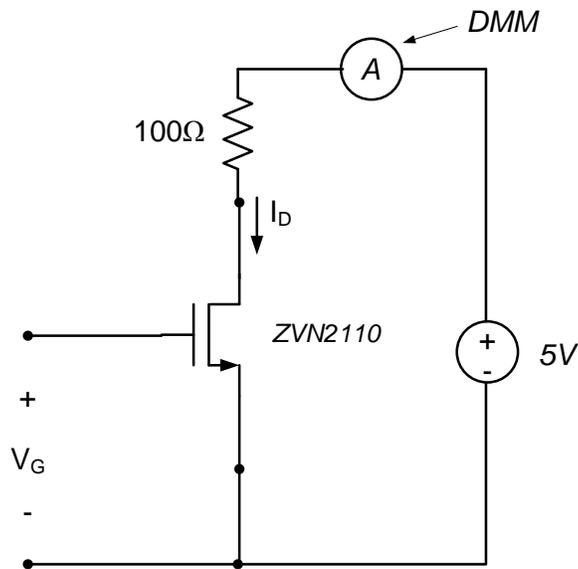

Figure 2. VCCS circuit schematic.
1. Connect the circuit shown in Figure 2. Two power supplies are used in the circuit. Use channel 1 of your Arbitrary Waveform Generator (W1) to apply the (variable) gate voltage, V_G . Use of the waveform generator to apply constant voltages is presented in Appendix A of this assignment. Use the positive power supply (VP+) to provide a constant 5V to the MOSFET drain; this power supply provides the drain current i_D .
The 100Ω resistor in Figure 2 is used to limit the amount of current flowing through the MOSFET. If no resistor is used between the power supply and the MOSFET, an excessive amount of current can flow through the MOSFET resulting in damage to the MOSFET and/or the rest of the circuit. The 100Ω resistors in your analog parts kit can be identified by the color bands on the side of the resistor – they will be as shown in Figure 3. We will discuss resistors in detail in later modules. Use an ohmmeter to measure the resistance of the resistor and record this value in your lab notebook (the actual resistance will most likely be slightly different from 100Ω).
Connect your DMM as shown in Figure 2 to measure the current i_D .